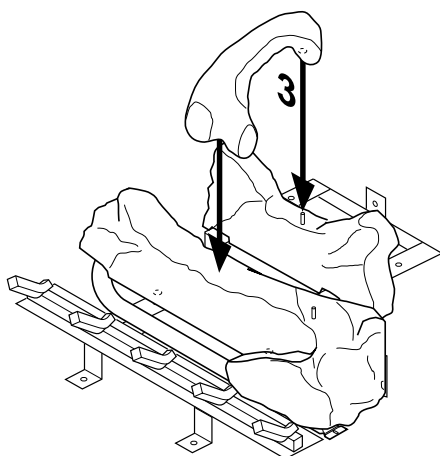

Figure 42 - Installing Log No. 3
3. Place log #3 (crossover log) onto the rear and front logs. Make sure it is seated properly on the smooth surface on the front log and on the pin on the back log as shown in Figure 42.